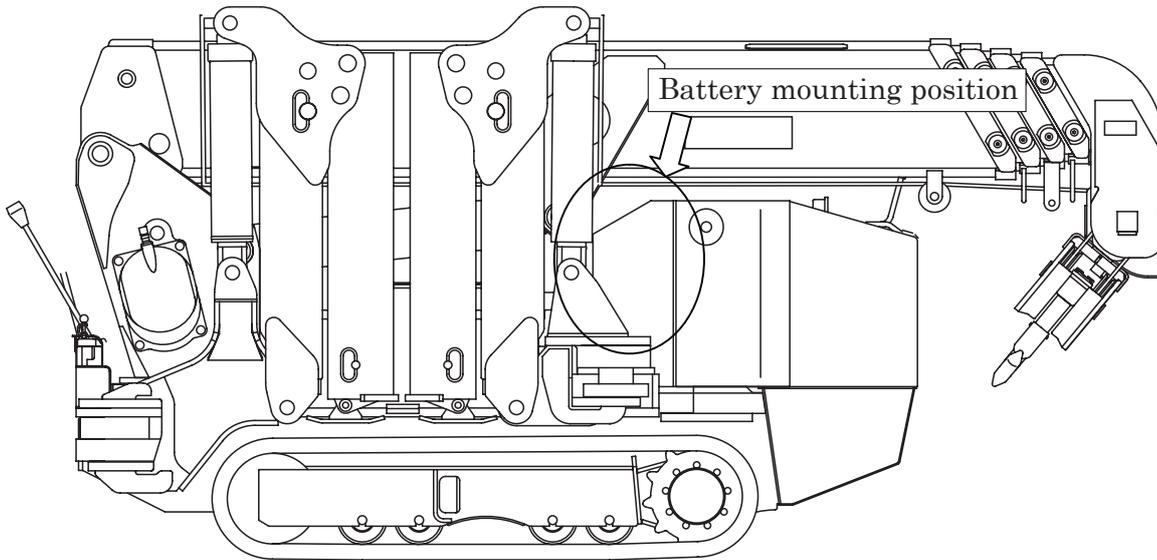

Fig. 1 Battery mounting position
(1) Battery is installed on the battery mount as illustrated in the Fig. 1.